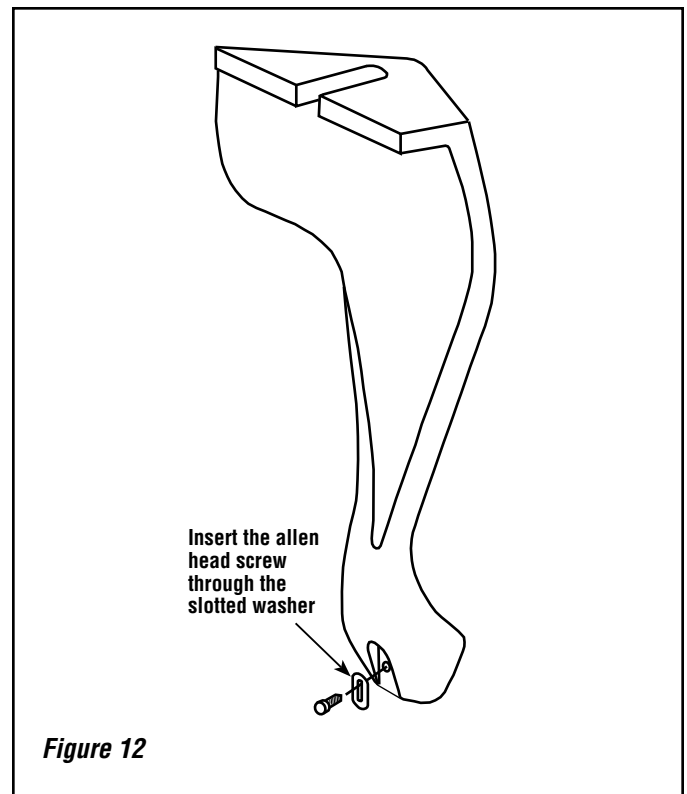

Figure 12
8. If it is necessary to level, secure or ground your stove, use the holes in the bottom of the leg for those applications. To level the stove on Olympic cast legs, locate the front leg that is not touching the hearth pad. Insert the allen head screw through the slotted washer (supplied with the legs) and into the threaded hole in the bottom of the leg. See **Figure 12**. Push the slotted washer down until it touches the hearth pad and then tighten the screw into the leg. Should any other leg not be resting on the hearth pad, install a washer and screw in that leg as well.